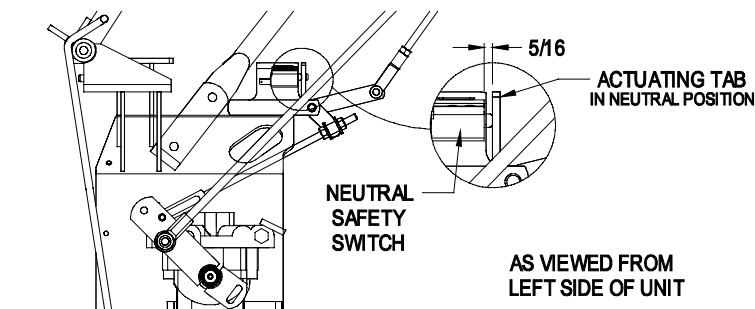

FIGURE 9
- b) Install hairpin clips in the holes for the desired cutting height (See Figure 9).
2. Move speed control lever (located on console) to the full forward position and check orientation of tabs on the ends of the speed control crank (See Figure 9). These tabs should be pointing straight down at the 6 o'clock position or slightly forward. Adjust threaded yoke at the bottom of speed control linkage (See Figure 9) until tabs are positioned correctly.
3. Pull speed control lever back to neutral. Check that the neutral safety switch actuating tab has depressed the plunger of the switch so that there is about 5/16" between the tab and the switch (See Figure 9). If necessary, move the switch fore and aft.